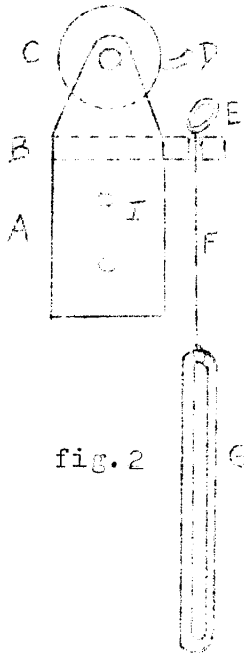
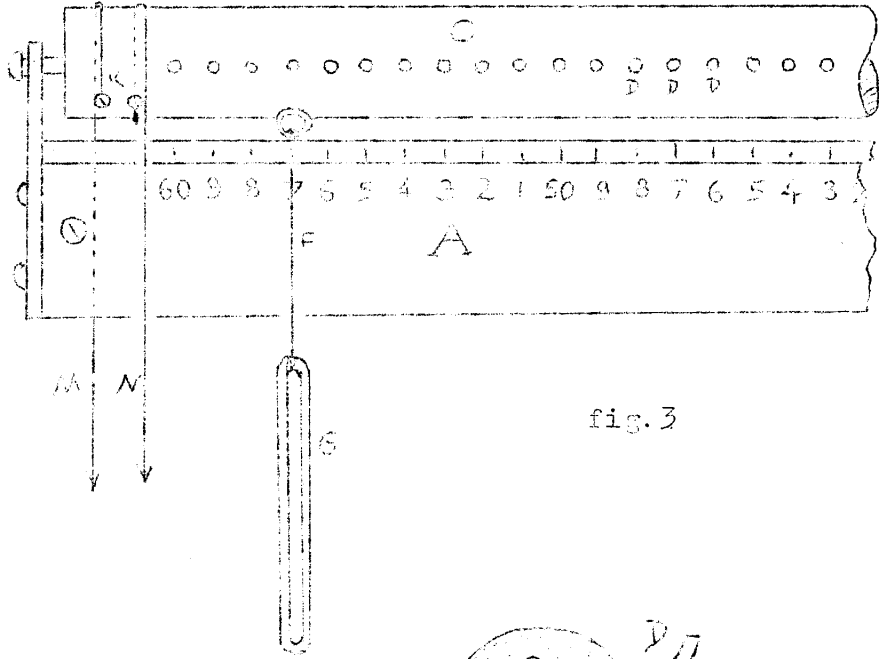
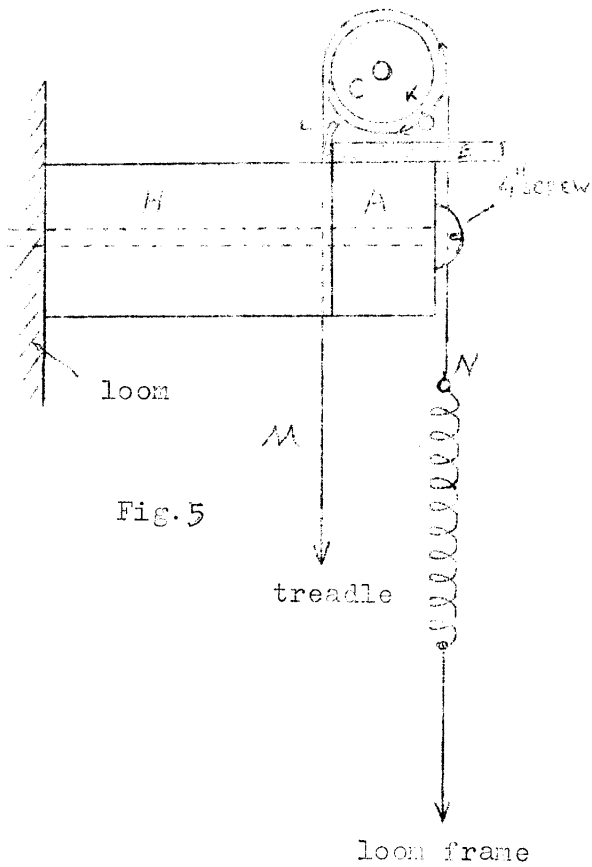
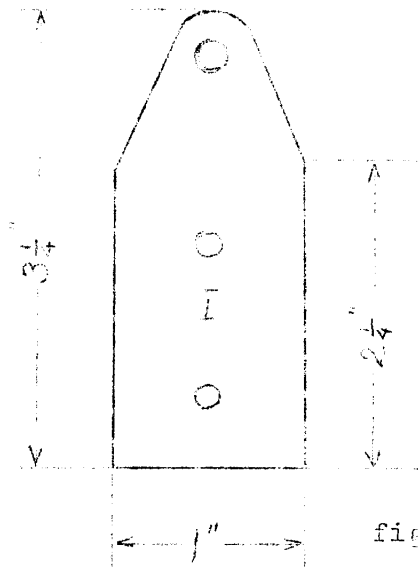

fig. 2
fig. 3
Fig. 5
fig. 6
used for weaving vertical borders. Since we have only one frame, the vertical border will give us only one block of pattern, just as the horizontal one. The frame 4 will carry only colours in warp, corresponding to the colours used in weft for horizontal borders. Fig.6 shows
☒ - pattern warp      Fig.6
The construction of the pattern harness is shown on fig.2 and 3. The heddles are made of heavy copper or brass wire about .080" in diameter, and  $3\frac{1}{2}$ " long (g - fig.2 and 3). The best way of making a quantity of them (at least 108 for a 36" loom) is to cut a piece of iron sheet  $3\frac{1}{2}$ " wide and a foot or so long, and then wind the copper wire around it. The wire must be straight and soft (it can be softened by heating it with a blow torch) and we shall need up to 100 feet of it.
The cumber board is screwed to a piece of  $1\frac{1}{2} \times 2$ " (or thereabout) made of any hardwood or even good pine. This piece (a) must be long enough to reach from one upright supporting the loom's harness to the other, and is fixed to these uprights with only two long and heavy screws passing through two pieces of wood  $1\frac{1}{2} \times 2 \times 3$ " (W fig.5). On top of the cumber board support (a) there is a roller (c) as long as the support and about 1" to  $1\frac{1}{2}$ " in diameter. It rotates on two steel plates (I figs.2 and 6)  $\frac{1}{8}$ " thick. They can be replaced with hardwood boards about  $\frac{1}{2}$ " in thickness, and other dimensions as in fig.6. These plates are screwed to the cumber-board support (a). The top hole should be slightly larger than the diameter of screws set in the roller. These screws should be about 2 or  $2\frac{1}{2}$ " long and well centered in the roller.
On the left hand side of the roller one quarter turn below the nails we shall have two small screws (k figs.3 and 5) to which two cords will be attached: one going anti-clockwise to a treadle which will operate this harness, and another going clockwise (N) to a spring (screen door spring) attached to the loom frame. A stop (L fig.5) made of a piece of soft steel will prevent the roller from turning too far and thus dropping all heddles.
This is all, or nearly so. The last thing to do is to mark numbers opposite each hole in the cumber board. Since most patterns are symmetrical it may be as well to mark the central hole (half way the length of the loom) as "0" and go in both directions with consecutive numbers: 1,2,3,4,5,6,7,8,9,10,1,2,3,4, and so on (fig.3).
We start weaving with the ground, which is woven as if the pattern harness were not there. As long as the roller is not turned the pattern heddles do not interfere with plain weaving, whether the heddles are already hung on the roller or not. When it comes to the first line of pattern we select the proper heddles according to our drawing, and press the pattern treadle. This is tied to the roller by the cord "m" (fig.3) and it raises all the pattern heddles hung on the roller. Now one or several shots of pattern are made. If there is binder between the shots of pattern, the roller is lowered for each shot of binder by releasing the pattern treadle (gently!). The spring attached to the cord (N) will pull the roller to its neutral position. When one block is finished and another is to be woven, some of the heddles are unhooked from the roller and others attached to it. When all heddles attached to the roller are to be replaced, the pattern treadle should be released suddenly - this will result in all the heddles being detached from the roller.